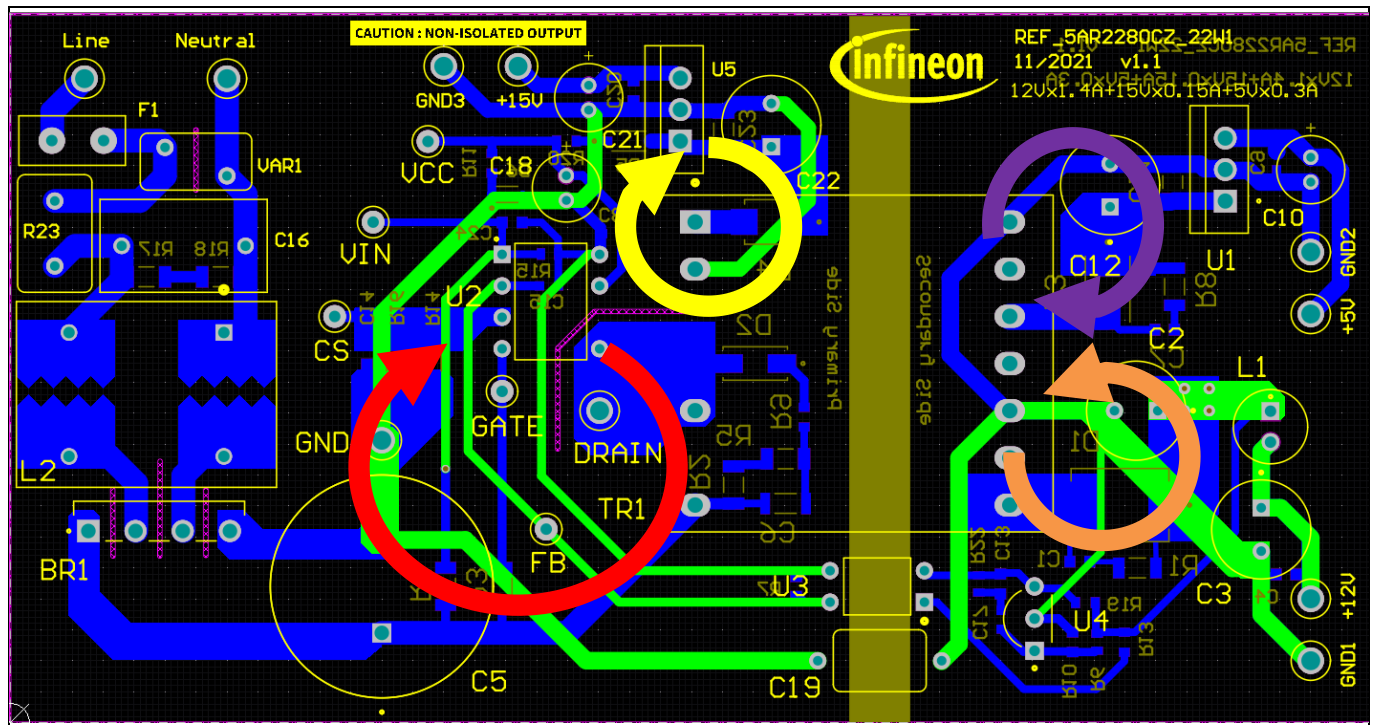

Figure 5 PCB layout tips
- The switching power loop needs to be as small as possible (see Figure 5). There are four power loops in the reference design; one on the HV side and three on the output side. The HV side loop starts from the bulk capacitor (C5) positive terminal, primary transformer winding (pin 7 and pin 5 of TR1), CoolSET™, CS resistors and back to the C5 negative terminal. The first output side loop (12 V output) starts at the transformer winding (pin 8 of TR1), output diode D1, output capacitor C2 and back to pin 10 of TR1. The second output side loop (8 V output) starts at the transformer winding (pin 12 of TR1), output diode D3, output capacitor C12 and back to pin 14 of TR1. The third output side loop (18 V output) starts at the transformer winding (pin 1 of TR1), output diode D4, output capacitor C18 and back to pin 2 of TR1.